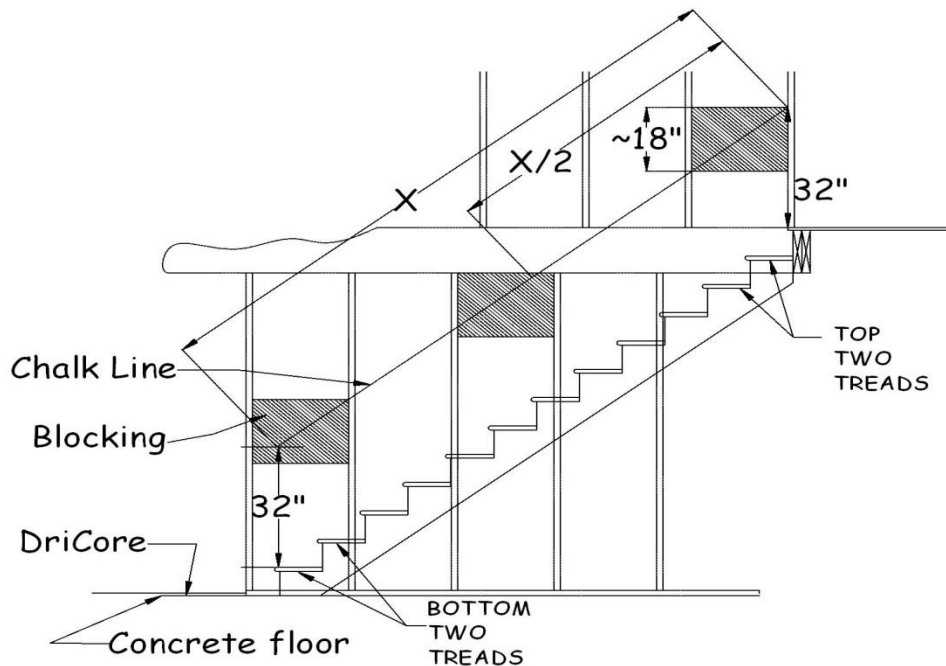

Figure 10-6. Blocking For Handrail.
2. The handrail bracket bottom screws will be mounted approximately 31" above a line that is defined by the nose of the treads. This will place the top of the handrail between the required 34" and 36" above the nose of the treads. To provide some latitude in the placement, measure up 32" from the decking, vertically at the edge of the floor deck, and mark the wall at that height. At the bottom of the stairs, again measure up 32" from the nose of the bottom stair tread. Snap a chalk line between the top and bottom marks. The blocking must be installed so that the top corner toward the top of the stairs is even with the line, and the bottom corner toward the bottom of the stairs is even with the line. (See Figure 10-6.)
3. For blocking, use a combination of scrap 2x12's, 2x10's or 2 x6's to equal a minimum height of 18" (see Figure 10-6). The extra height helps to ensure that handrail brackets will be secured to the blocking after drywall is installed.